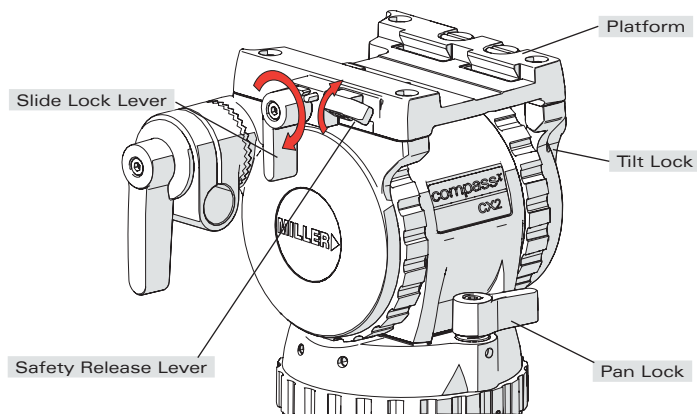

Fig. 3a
2.1 Remove the CAMERA PLATE by lifting the SAFETY RELEASE LEVER on the PLATFORM (SLIDE LOCK LEVER must be unwound (clockwise)) (Fig. 3a).